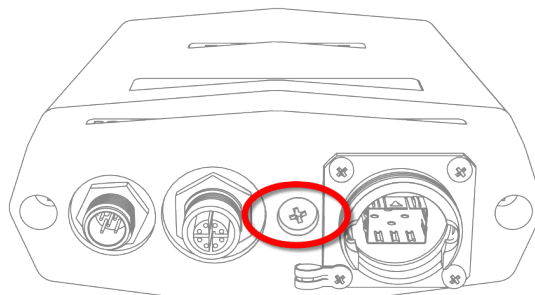

Figure 7. Cisco FM4500 Fiber (Hardware RESET protective screw)
1. Remove the Phillips-head screw labelled **RESET** at the bottom of the unit (Figure 7 \(page 31\)).